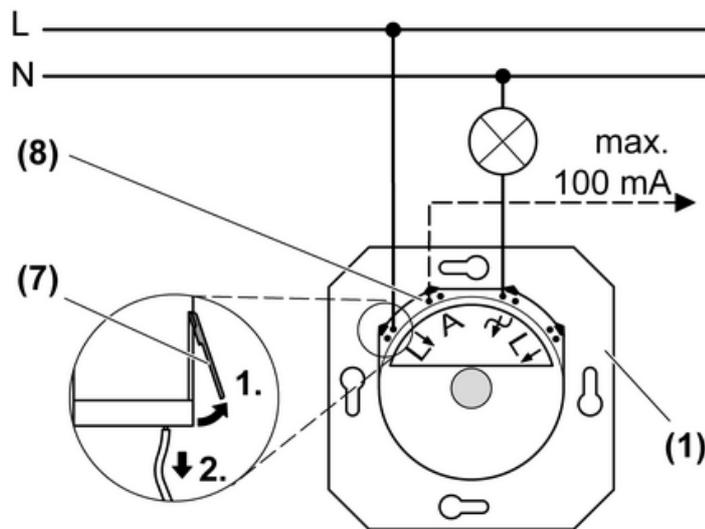

Figure 2: Connection diagram
- (1) Dimmer
- (7) Pull the connecting cable out of the push terminal.
- (8) Control output A
- Connect the dimmer according to the connection diagram (Figure 2).